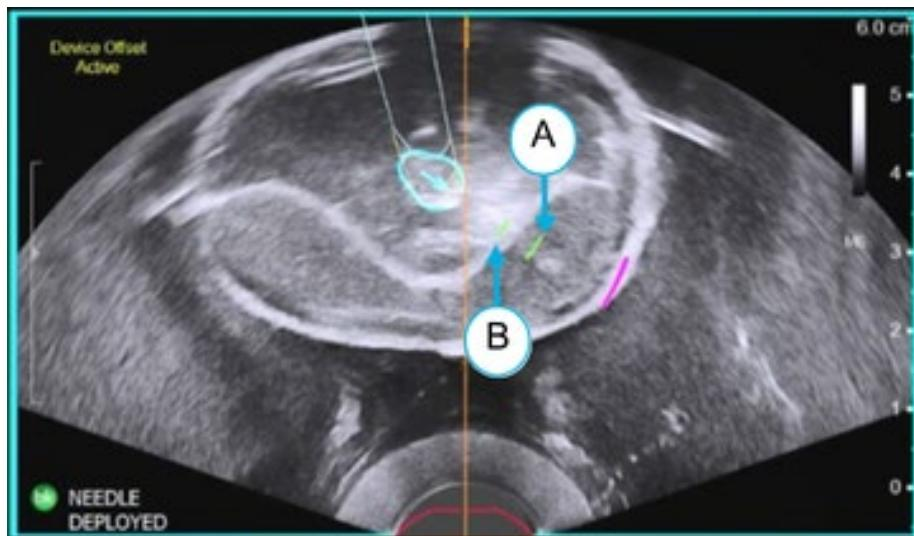

Figure 12-16: Location of Vapor Emitter Holes
■ **NOTE:** Once deployed, the magenta-colored projected needle path changes to two green arches. The most distal green arch (A) depicts the estimated location of the Needle tip, and the proximal arch (B) depicts the estimated location of the most proximal emitter holes. Vapor will be emitted between the two green arches (Figure 12-16).